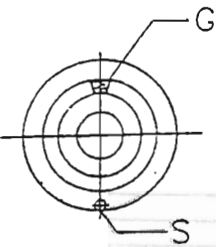

Fig 13-4
3. Then take the first balancing piece 'G' and attach it opposite to the 'G' mark. Caution: The 'G' mark cannot be moved hereafter (see Figure 13-4).